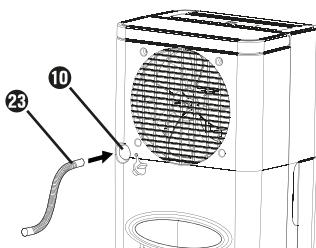

Fig. 4
- ◆ Remove the stoppers ⑨ from the water outlet opening ⑩.
- ◆ Connect either the supplied hose ②3 or the EU garden hose adapter ②4 to the water outlet opening ⑩ (see figures 4 and 5).